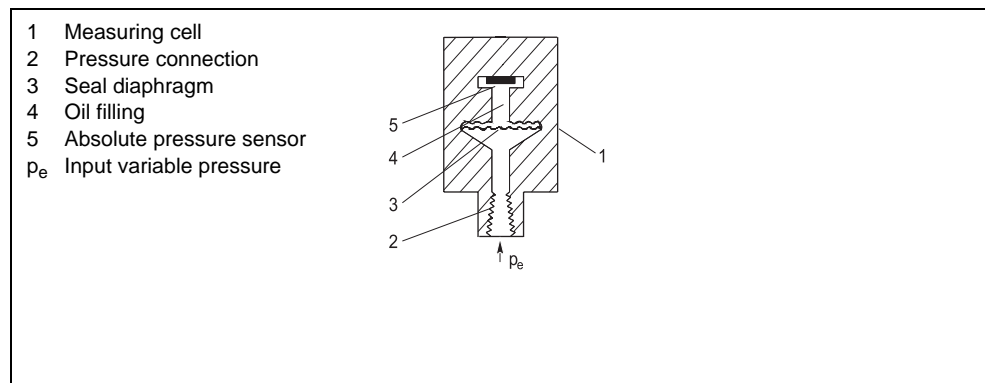

Figure 10 Measuring cell for absolute pressure from pressure series, functional diagram
The pressure is transmitted via the seal diaphragm (see (3) Figure 10, page 20) and the filling liquid (4) to the absolute pressure sensor (5) and flexes its measuring diaphragm. Four piezo-resistors in bridge circuit doped in the measuring diaphragm change their resistance as a result. The change in resistance causes a bridge output voltage proportional to the input pressure.